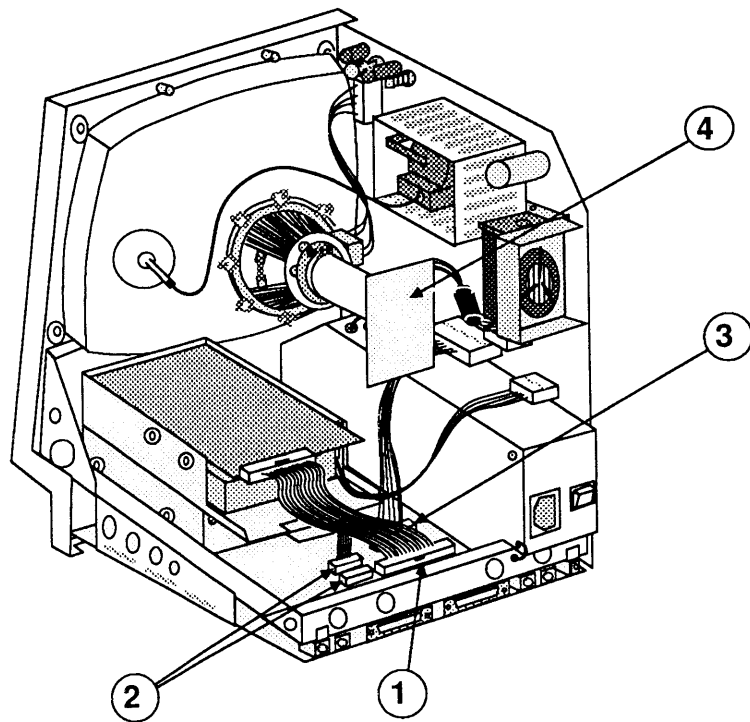

FIGURE 14
4. Carefully pull the video board (Figure 14, #4) off the neck of the CRT.
- Hard disk drive cable, if present (Figure 14, #1)
- Internal disk drive cable(s) (Figure 14, #2)
- Power supply cable (Figure 14, #3) (You must depress the holding clip on this connector before you can pull it out.)